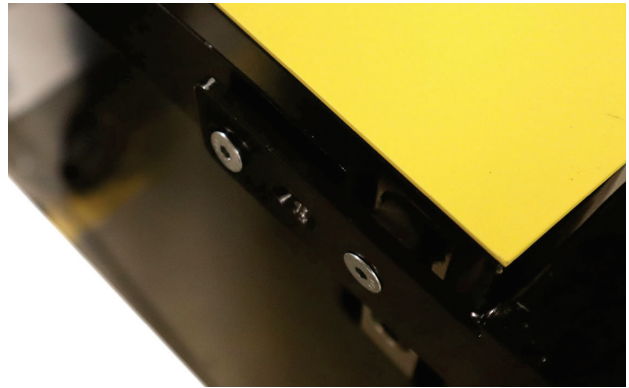

Figure No. 3
Refer to Figures No. 3 and 4, then follow the steps below to install the ramp straps.
- Apply thread locker to the first screw. While holding the strap in place, hand-thread the screw through the mounting tab and into the strap (See Figure No. 3).